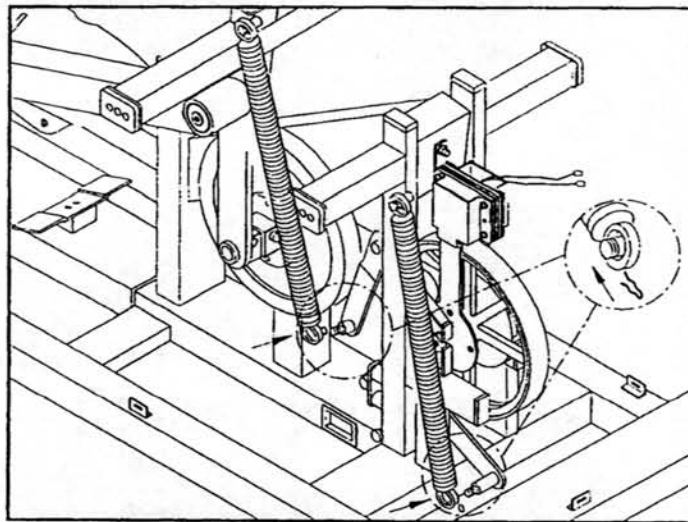

Fig.14-4
2. Put the springs inserting on connected position of the IDLER WHEEL and lock them by inserting the PINS (see fig.14-4).